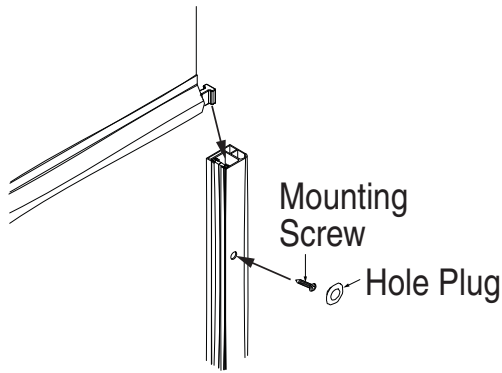

Figure 6
- ③ Slide dowel end into the side channel (see Fig. 6).
- ⑥ Attach side channel to mounting surface.
- ⑦ Repeat for the other side channel.
- ⑧ Install hole plugs (provided) to cover holes drilled in the side channels (see Fig. 6).